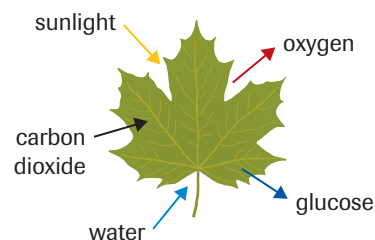

Figure 1
5. Photosynthesis is the formation of carbohydrates and oxygen from carbon dioxide, water, and sunlight, catalyzed by chlorophyll in the green parts of a plant (**Figure 1**).